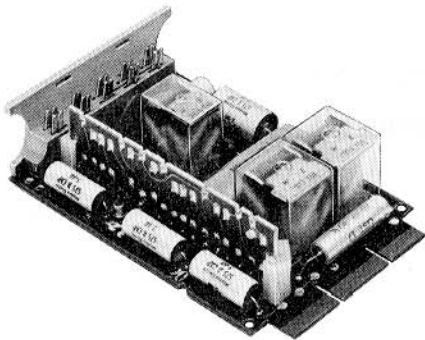

Fig. 1—Typical 4-Inch Key Telephone Unit
1.01 This section provides schematic information for the 400-series key telephone units (KTUs) which provide talking circuits and control and signaling functions between telephone sets in a 1A2 Key Telephone System (KTS) (Fig. 1 and 2).
one end of which is equipped with contacts. A 4-inch board may have 18, 20, or 40 contacts; an 8-inch board will have 80 contacts (requiring two vertical 40-pin connectors). The circuit boards plug into mating connectors in key service units, panels, or apparatus mountings. Wiring from the connectors will be dedicated or nondedicated leads. Dedicated leads are those that normally appear on the same contacts of all KTUs, such as supply voltages and grounds, and are normally factory wired. Nondedicated leads are those whose designation and function vary and are made available for installer connections. Typical 4- and 8-inch KTUs are shown in Fig. 1 and 2.